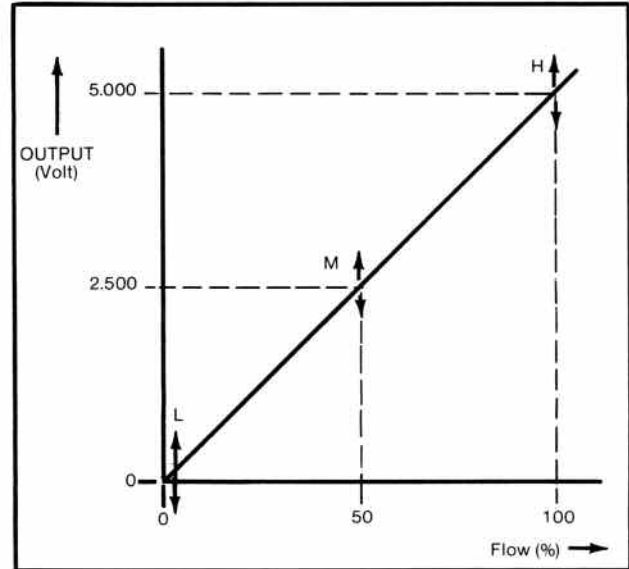

Figure 6.1 Flow Signal Output vs. Percent Actual Flow: Trim pots, L, M, and H areas of influence.
- 5.3 Repeat steps 1 through 3 above until the deviations between the desired values and the adjusted values are less than 0.2% FS. Please note trimpots H and L may be adjusted without requiring adjustment of trimpot M or each other. However, adjustment of trimpot M does require readjustment of trimpots H and L. Refer to Figure 6-1 for a graph of output voltage versus percent of full scale flow showing the transfer area affected by trimpots L, M and H.
6.3 Repeat steps 1 through 3 above until the deviations between the desired values and the adjusted values are less than 0.2% FS. Please note trim pots H and L may be adjusted without requiring adjustment of trim pot M or each other. However, adjustment of trim pot M does require readjustment of trim pots H and L. Refer to Figure 6-1 for a graph of output voltage versus percent of full scale flow showing the transfer area affected by trim pots L, M and H.